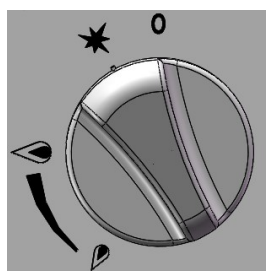

Fig. 3
- ②And then axial press the front air valve knob, left 30 degrees, to the fire position ★ (Fig. 3).
- ③At the fire position, completely press the knob, and press the button of the piezo igniter with another hand simultaneously. Keep pressing the knob about 10-15 seconds, and observe stability of fire.
- ④If the fire is not lit, please repeat the above steps until the fire is ignited.
- ①When the control knob is rotated to the fire position ★ (Fig.3), the main fire burner flame is extinguished, but the pilot light will continue to work.
- ②Axial press the knob to rotate knob clockwise continually, so that the direction of the knob on the "0" position, at this time, the fire extinguished, the valve closed.